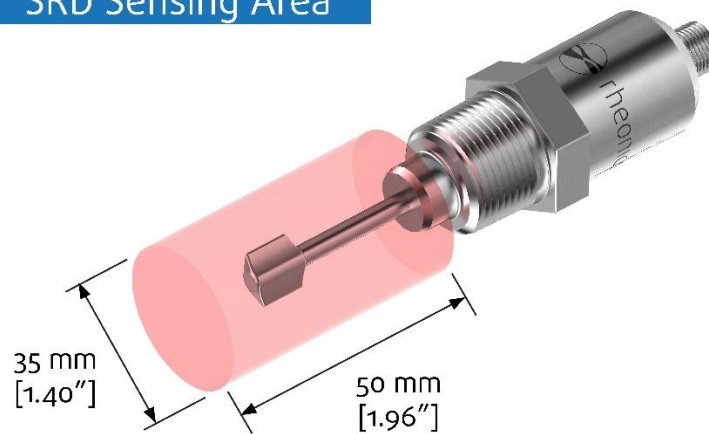

Figure 11: SRD sensing area.
Rheonics SRD sensor probe has a sensing element that is surrounded by the sensing area highlighted in red in Figure 11: SRD sensing area. Figure 11The SRD sensing area must be fully in contact with the fluid of interest, partial immersion must be avoided. This sensing area is the same across all variants of SRD probes. This allows repeatable and reproducible readings of density and viscosity for the same fluid and operating conditions, regardless of the probe variant (flush, short, long, slimline, reactor, etc.) or installation.
This is relevant only for Perpendicular installation orientation, as shown in Figure 11. SRD sensor probe's fluid end or tip has a pallet shape, with one axis longer than the other. For perpendicular installations, Rheonics recommends aligning the SRD sensor probe tip to the fluid flow, as detailed in Figure 12. This avoids possible recirculation zones that can lead to sedimentation behind the tip (shadow section). This is also a requirement for hygienic installations. Learn more here.
- Have enough space and fluid to surround the sensor sensing element (red zone in Figure 11). Have fluid level higher than the minimum level required. Consider the thermal equilibrium required, as described in section 3.4.